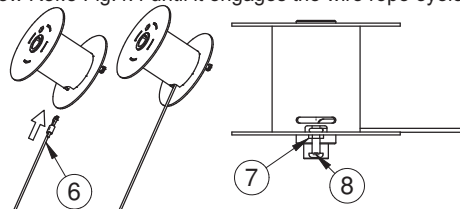

Fig. 4.4
4) Insert the new wire rope (Ref.6 Fig. 4.4) in the hole and place the eyelet under the nut welded on the drum (ref.7 fig. 4.4) and insert the screw Ref.8 Fig.4.4 until it engages the wire rope eyelet